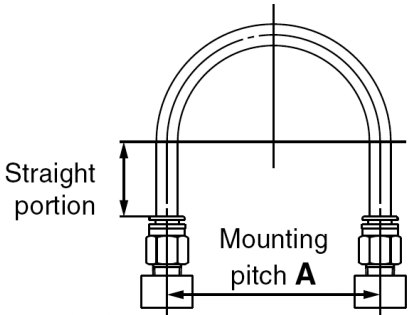

Figure 7
- When connecting tubes using one-touch fittings, provide some spare tube length as shown in Figure 7.